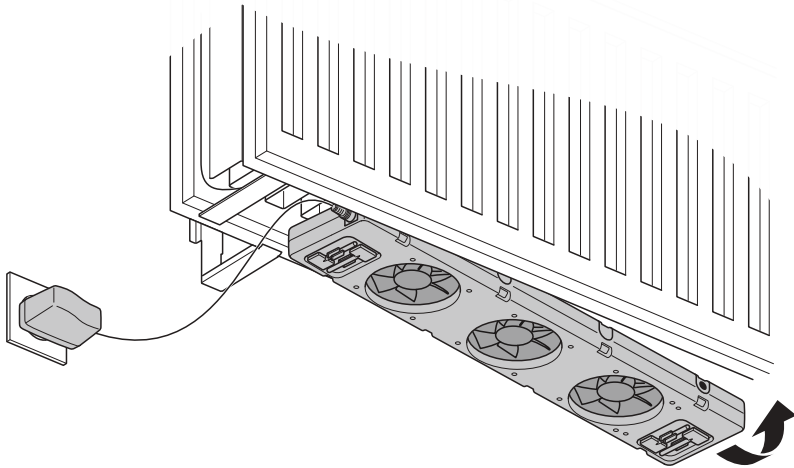

Fig. 2 - Attach the SpeedComfort (A).
- Identify a space where the radiator wall brackets and connecting clips are not in the way. Attach the **SpeedComfort** (A) at the bottom between the radiator plates with the **adjustable magnets** (B) (see fig. 2). The **SpeedComfort** (A) can also be attached on top of the radiator and under a cover. **NOTICE** Make sure the **fans** still face upwards!